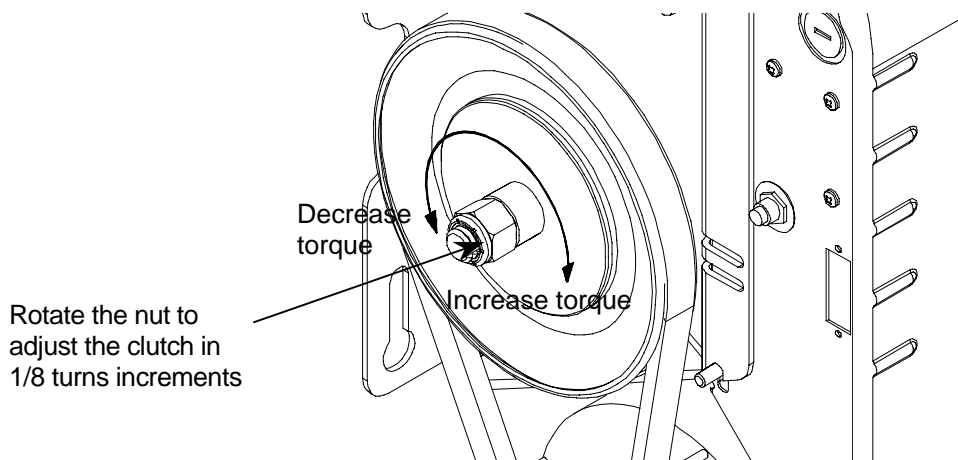

Figure 1 Clutch adjustment
1. Adjustment of clutch is done by rotating the nut located at the end of the input shaft where the pulley 7" is located (Figure 1).